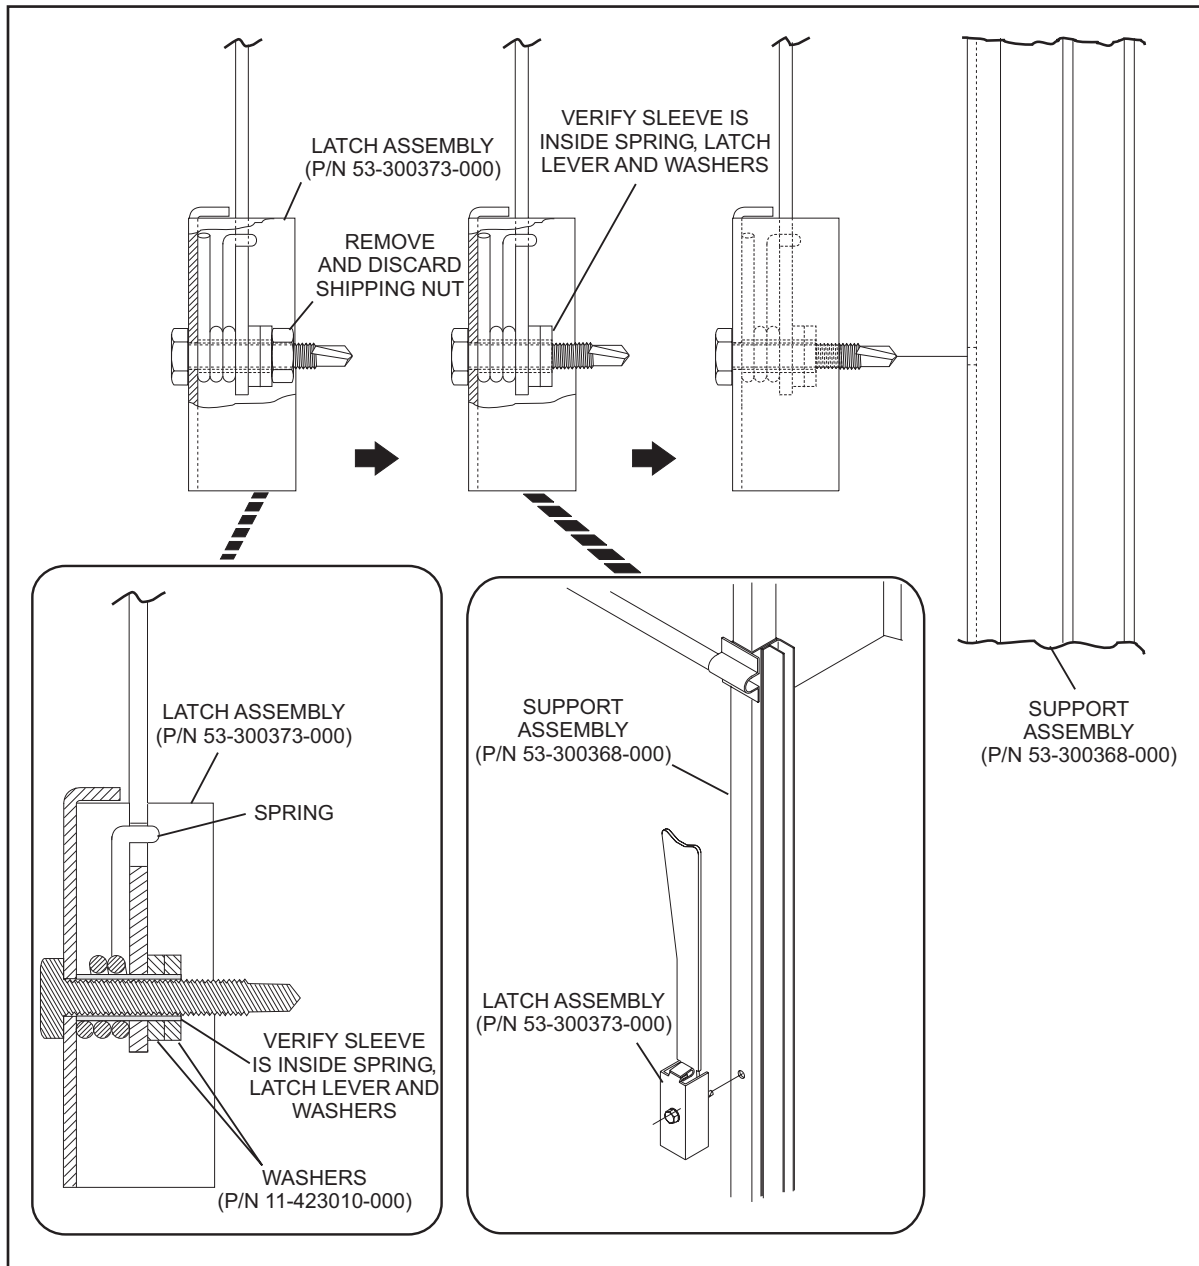

Figure 42
3. Secure latch assembly to support Assembly. Refer to *Figure 42*.